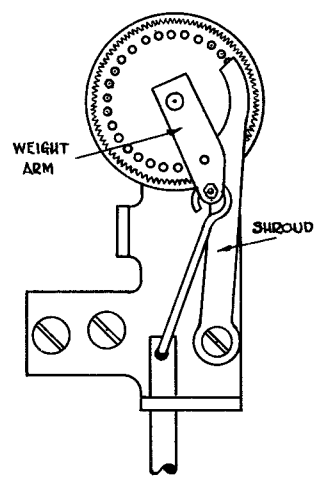

FIG. 19
31. WHEN THE WEIGHT ARM IS IN ITS LOWEST POSITION (FIG. 19) THE PIN SHOULD CLEAR THE SHROUD, BUT IT SHOULD NOT GO BEYOND BOTTOM DEAD CENTRE.